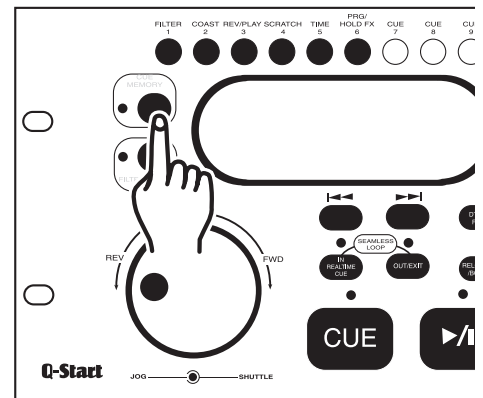

Figure 20
- 1) Create a cue point, press the CUE MEMORY BUTTON (6), as in Figure 20. The yellow Cue Memory LED will glow. This indicates a cue point is ready to be stored in to memory.